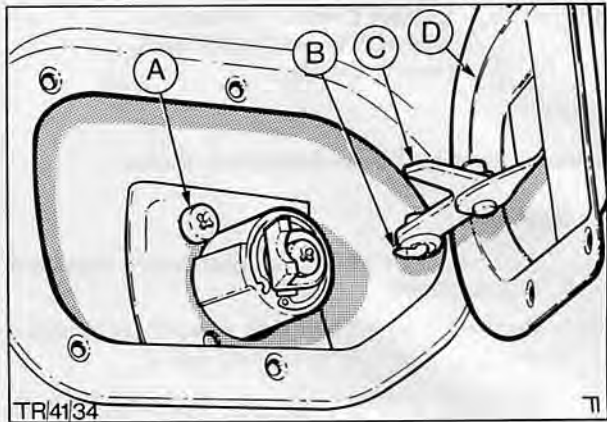

Fig. 29. Door lock assembly to door and exterior handle lock rod
2. Remove three screw and washer assemblies securing remote control plate 'D' in Fig. 29, to door inner panel. Lower plate within shell and disconnect remote control rod from lock lever.